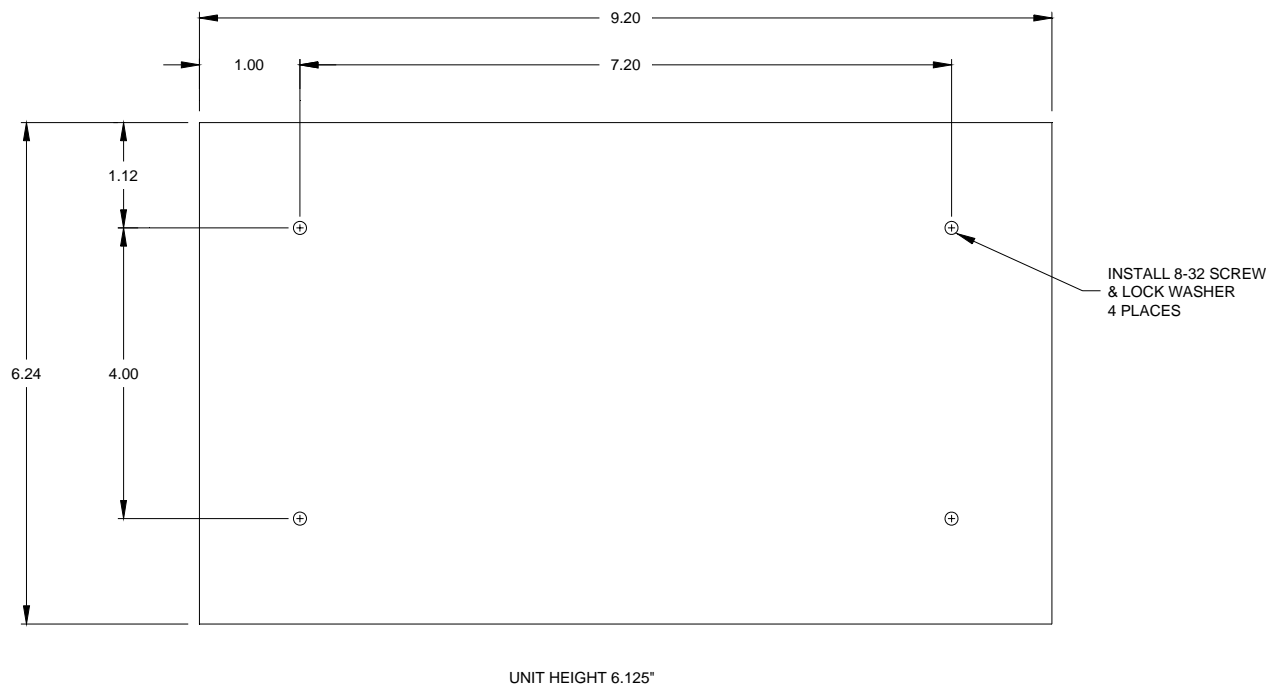

Figure 6 – RSM mounting
Note installation of the RSM chassis requires four (4) clearance holes for the #8-32 threaded screws. Dimensions in figure 6 are in inches.